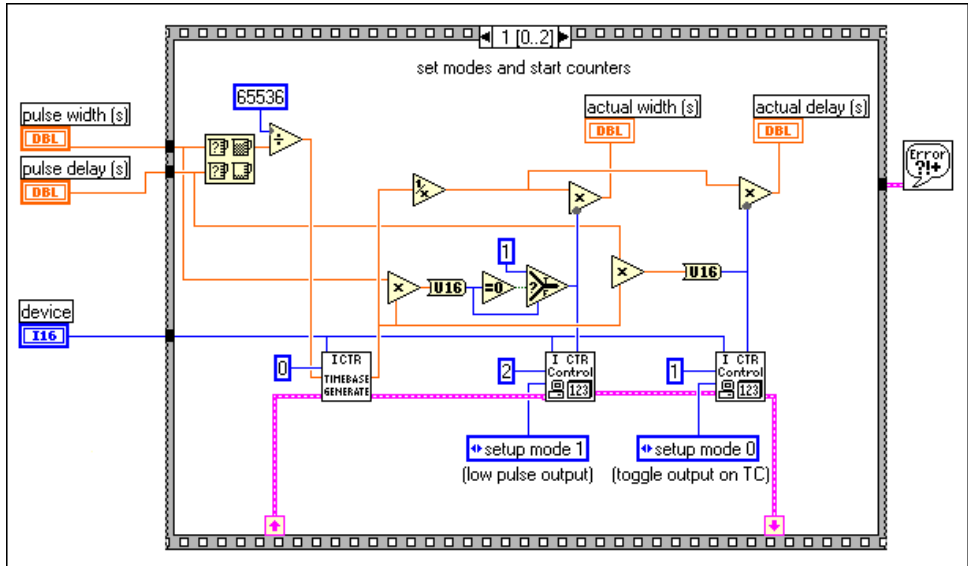

Figure 24-10. Frame 1 of Delayed Pulse (8253) VI
Figure 24-10 shows frame 1 of the sequence where the counters are set up for different counting modes. **counter 0** is set up to generate a timebase using the ICTR Timebase Generator subVI. **counter 1** is set up to toggle its output (low-to-high) when it reaches terminal count (TC). This toggled output is used to gate **counter 2**. **counter 2** is set up to output a low pulse when its gate goes high.